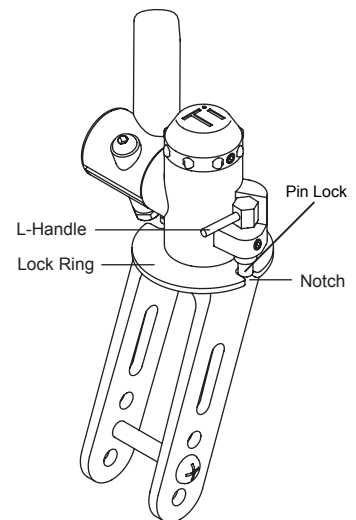

Figure 109
1. Rotate the front caster until either notch on the lock ring is directly beneath the pin lock. See Figure 109.